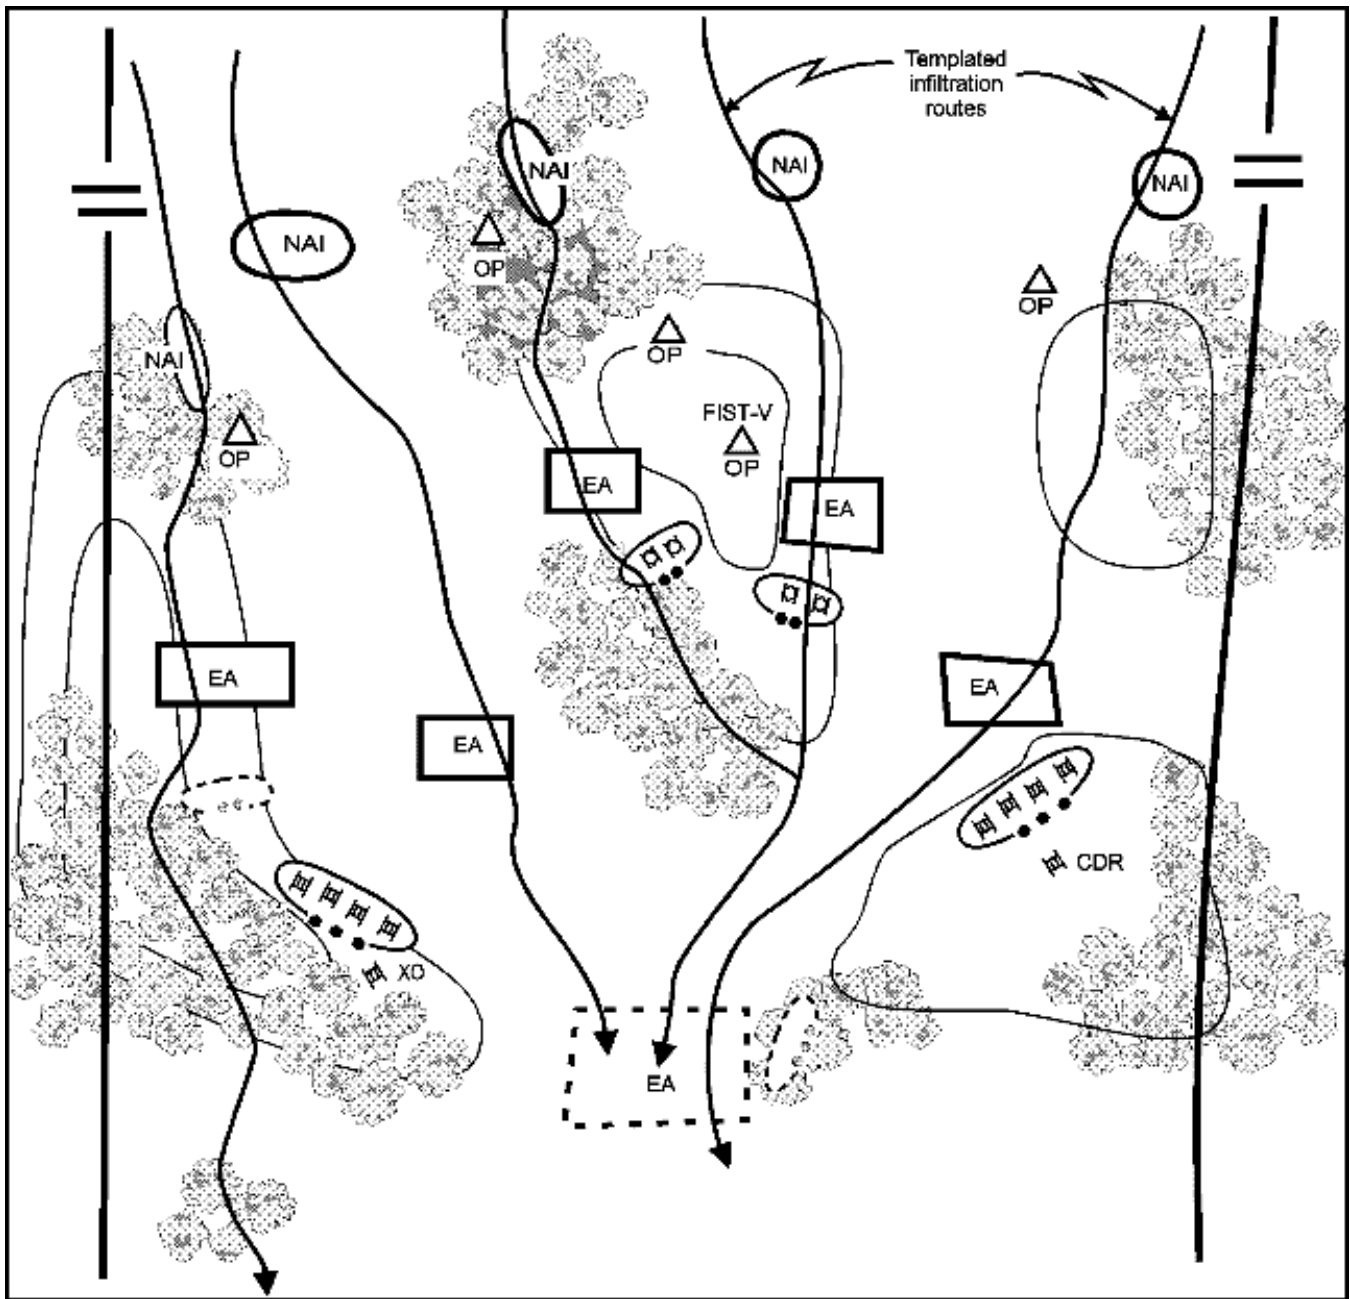

Figure 5-2. Example company team stationary guard (with infantry squads forward in OPs).
***Relationship of surveillance and attack elements.*** The company team's surveillance element must track locations of any enemy vehicles moving through the sector while the attack element moves into position. Once the attack element is set and can observe the enemy, the surveillance element completes target handover. This operation requires continuous communication between the two subordinate elements conducting the handover as well as close control by the company team commander or XO. In close terrain, the surveillance and attack elements must be positioned much closer together than in open terrain. This helps the elements both in maintaining visual contact and in achieving target handover at the appropriate time. Figure 5-2 illustrates a company team stationary guard operation.